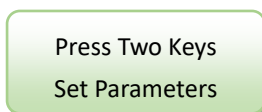

Fig 4-33 Set Parameters page
- B. On the **[Set Parameters]** page, double-press and hold to enter the setting page, as shown in Fig 4-33.